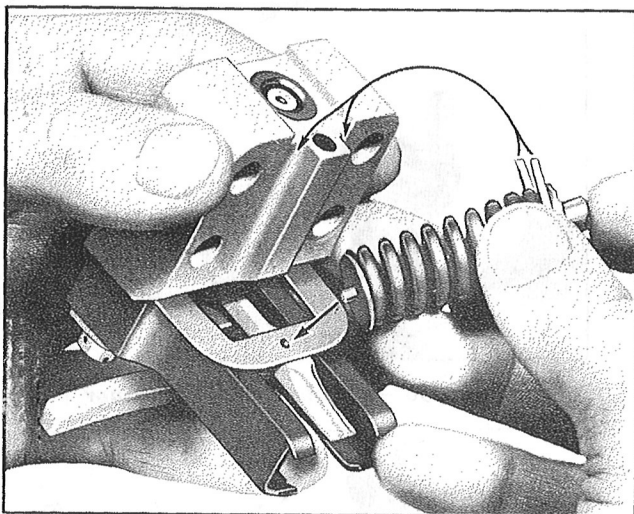

Figure 241—Installation of Governor Spring
*Step 9.*—Place the spring on the governor so that the pin on the spring guide engages the hole in the lever and the lever locating spring, as shown in Figure 241. Engage the prongs of the adjusting screw assembly with the guide on the governor body.